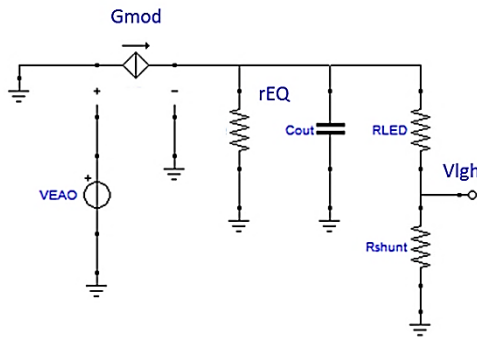

Figure 13 – Lighting Application Modulator Gain Model
Figure 13 shows a small signal model of the modulator gain when using the application circuit shown in Figure 11 with (2) 3.4V high current LED’s in series. RLED is the series combination of the AC resistance of each LED, which is 0.2 Ohms. Rshunt is used to sense the current through the LED string. It has a value of 0.050 Ohms in this case. The other component values were defined earlier and remain the same values. Equation (11) defines the transfer function of the modulator and equation (12) defines the pole of transfer function. The transfer function of the LGH amplifier is defined in Equation 13. The open loop gain of Eint is 2500 and ELS = 4.4.